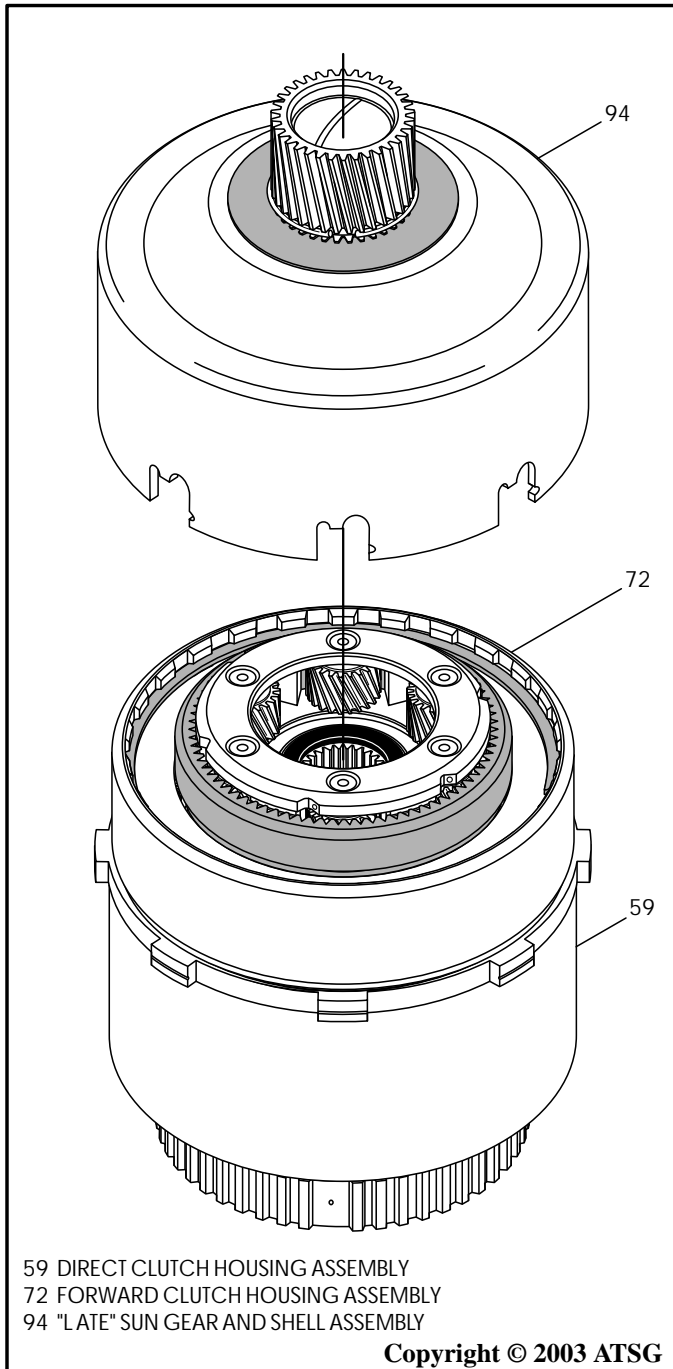

Figure 130
10. Install the proper sun gear shell over the entire assembly, as shown in Figure 130.